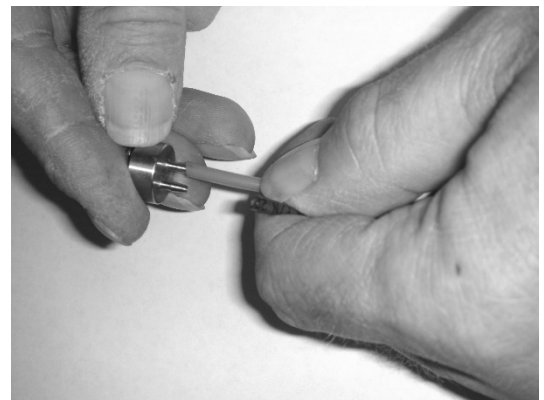

Fig. 5
- 7 Reconnect all tubing to barbs by pushing tubing onto barbs until seated. (Fig. 5)